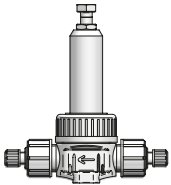

Fig. 8: Valve with arrow indicating the direction of flow
- Work in accordance with the flow direction of the back-pressure and pressure-relief valve (see Fig. 8).